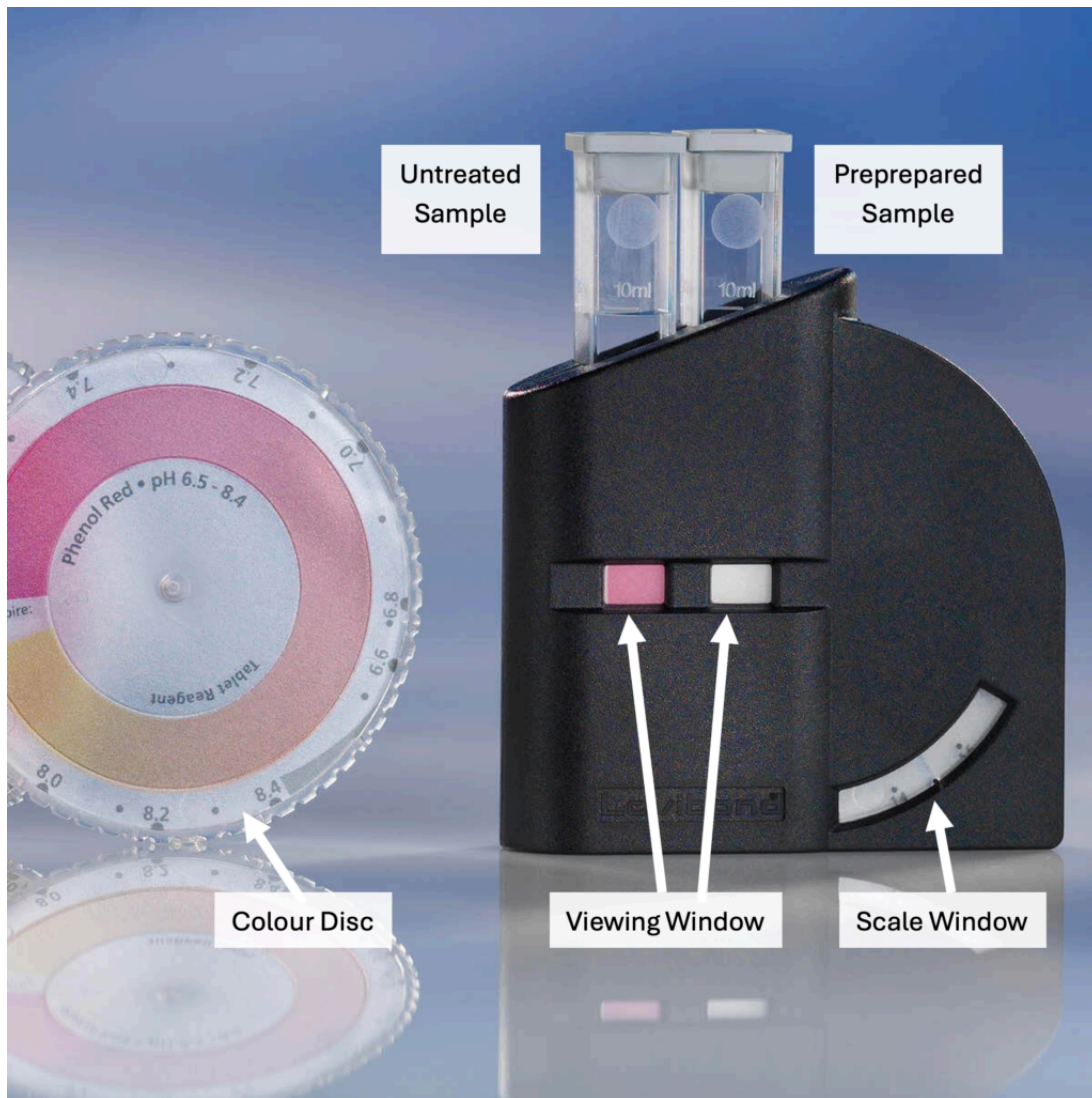

Figure 22. Colour comparator
- Figure 22. “Colour comparator” from Lovibond™ is used and adapted for educational purposes under the basis of fair dealing.